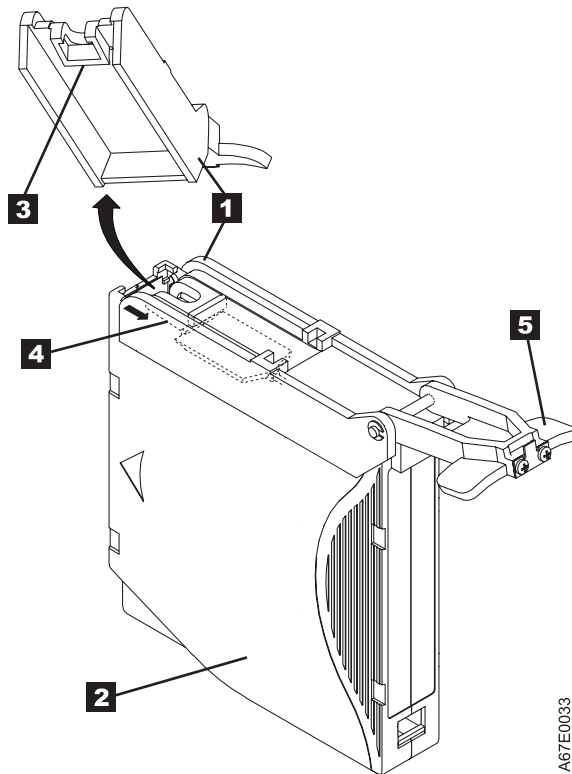

Figure 8-12. Attaching the leader pin attach tool to the cartridge. To hold the cartridge door open, hook the tool into the door and pull the tool back.
1. Attach the leader pin attach tool (1) in Figure 8-12 on page 8-14) to the cartridge (2) in Figure 8-12 on page 8-14) so that the tool's hook (3) in Figure 8-12 on page 8-14) latches into the cartridge's door (4). Pull the tool back to hold the door open, then slide the tool onto the cartridge. Open the tool's pivot arm (5).